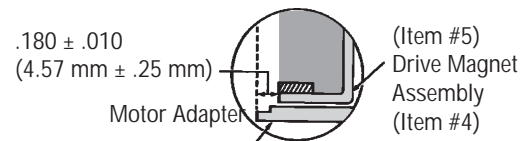

Figure 1
magnet assembly (item 5) onto motor shaft keeping shaft key in place. Installation dimension from front of drive magnet assembly to face of motor adapter is  $.180 \pm .010$  inches ( $4.57 \text{ mm} \pm .25 \text{ mm}$ ). Tighten 2 set screws (item 5A) with a 3/16" "T" handle Allen wrench to 228 in-lbs (25.8 N-m). A spacing tool is available for setting proper dimension (p/n A103188). See Figure 1.